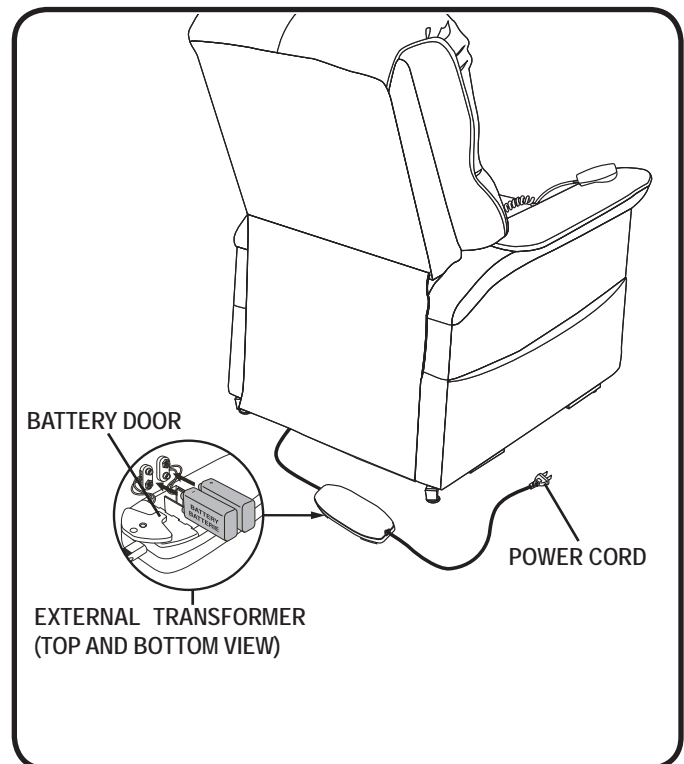

Figure 4.3 Chair Battery Back-up Location
3. Install two 9V batteries into the external transformer (**fig. 4.3**).